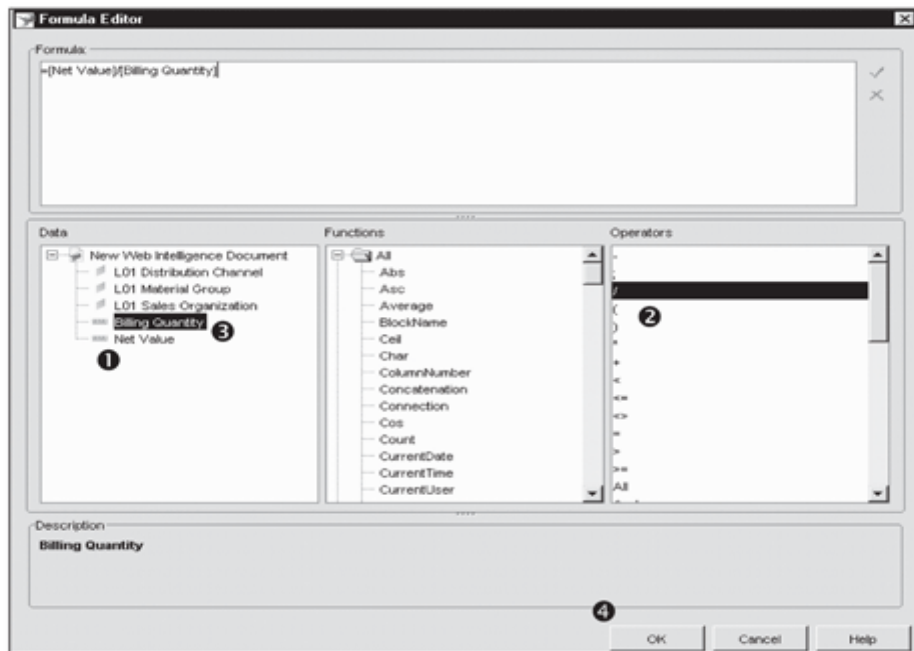

Figure 13.37 Working with the Formula Editor
The Formula Editor opens in a separate window, which provides options to build a formula for the newly created column (Figure 13.37).
On the Formula Editor screen, there are four sections (Figure 13.37):
To calculate sales per unit sold, we must build a formula where the Net Sales column is divided by the Billing Quantity column. To do this, first select Net Sales from the Data section (❶ of Figure 13.37), select the divided by operator (/) from the Operators section (❷), and then select Billing Quantity from the Data section (❸). Finally, click on the OK button to confirm the formula definition (❹).